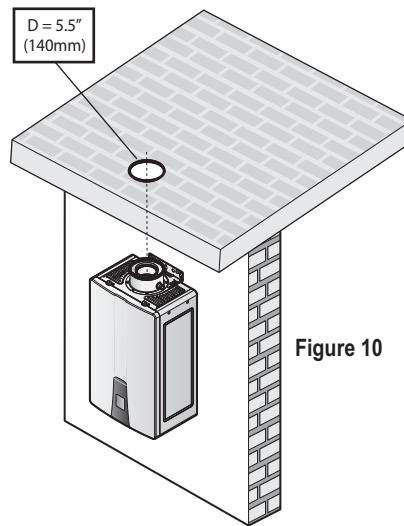

Figure 10
2. Cut a 5.5" diameter hole through the roof and frame the penetration. Make sure no debris falls into the appliance intake or outlet. **(Fig.10)**